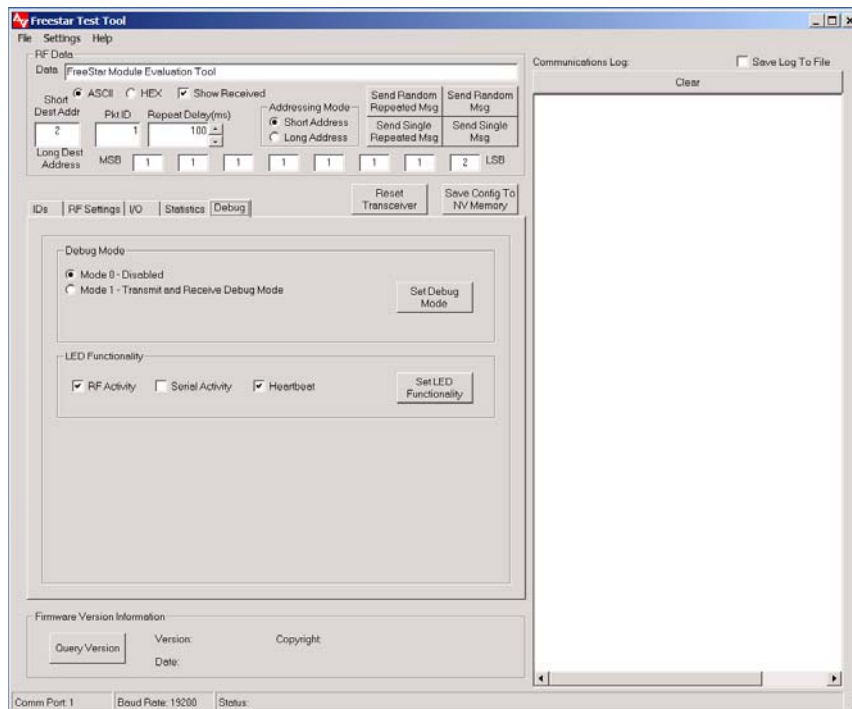

Figure 4-6. Debug Settings Screen
4.2.6 Debug Settings (See Figure 4-6)